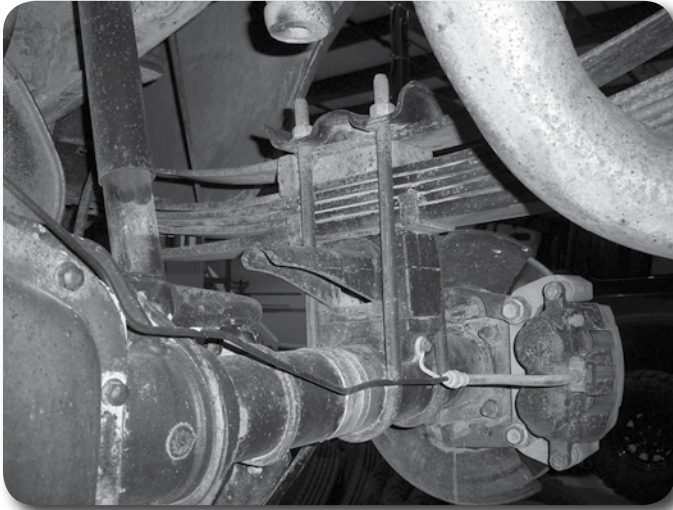

Figure 19
5. With the axle well supported, remove the passenger's side u-bolts. Lower the axle and remove the factory winged block. **Figure 19**